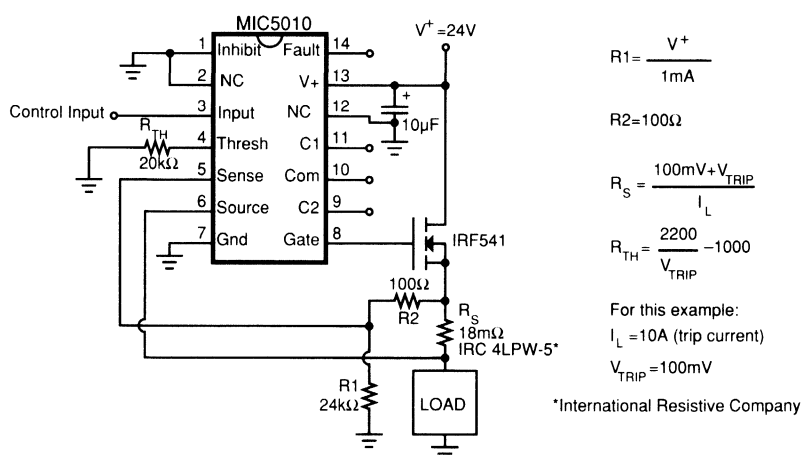

Figure 3. High-Side Driver with Current Shunt
**High-Side Driver with Current Shunt** (Figure 3). The comparator input pins (source and sense) float with the current sensing resistor (RS) on top of the load. R1 and R2 add a small, additional potential to VTRIP to prevent false-triggering of the over-current shutdown circuit with open or inductive loads. R1 is sized for a current flow of 1mA, while R2 contributes a drop of 100mV. The shunt voltage should be 200 to 500mV at the trip point. The example of Figure 3 gives a 10A trip current when the output is near supply. The trip point is somewhat reduced when the output is at ground as the voltage drop across R1 (and therefore R2) is zero.